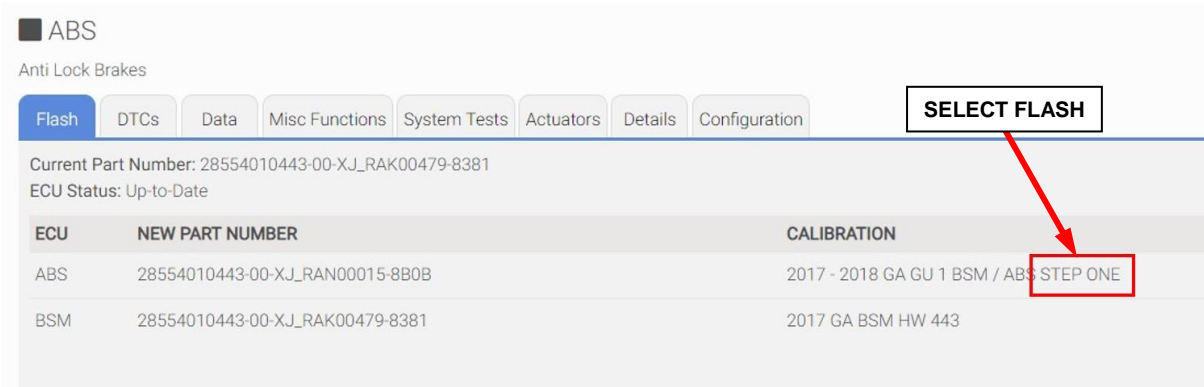

Figure 4 – First Flash ABS / BSM “STEP ONE”
11. From the ABS flash tab, select the ABS flash “STEP ONE” and proceed with the first reprogramming procedure (Figure 4).